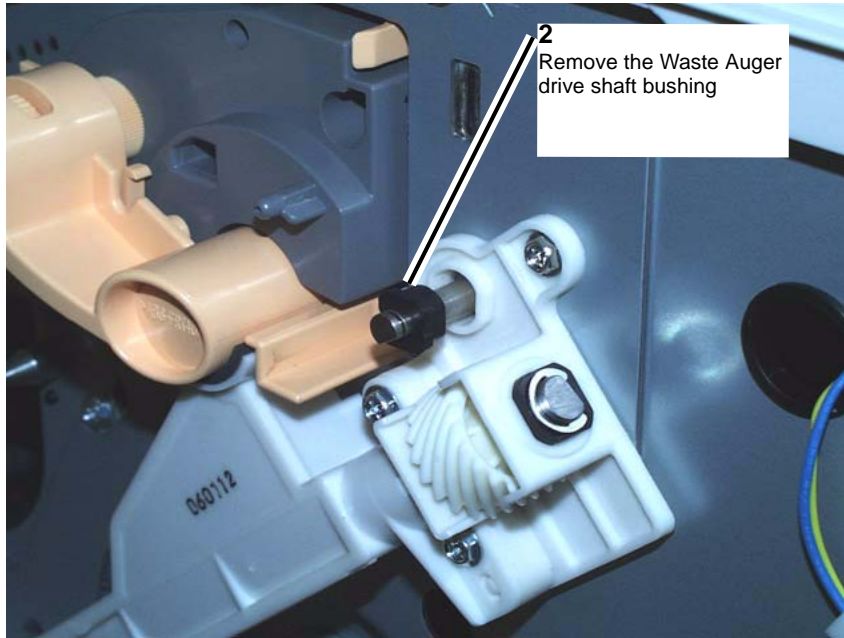

Figure 4 Removing the Waste Auger drive shaft bushing
8. Remove the Waste Auger drive shaft bushing. (Figure 4)